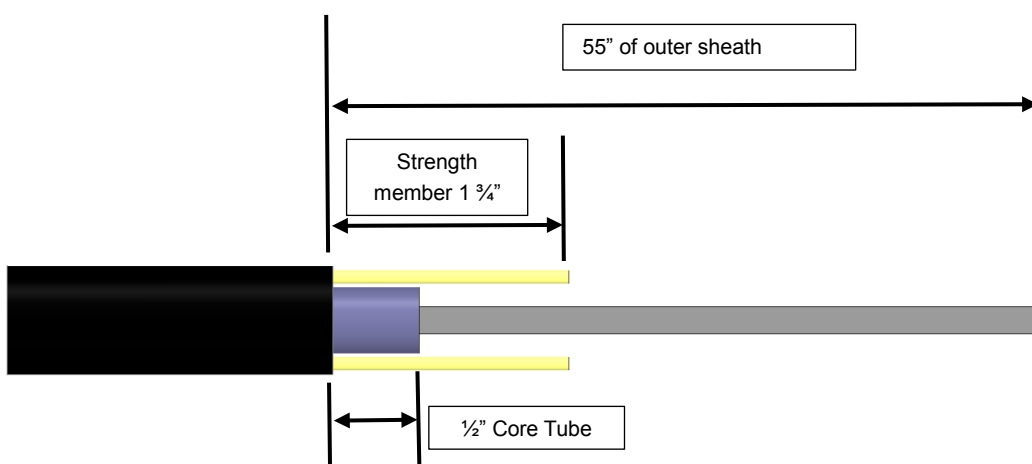

Figure 13
10.1.1 Preparation of Inline stub configuration ribbon central core tube, remove 55" of outer sheath from end of cable. See Figure 13.
10.1.2 Cut strength member(s) 1 3/4" from end of sheath opening. See Figure 13.
10.1.3 Remove core tube from ribbon leaving 1/2" core tube, measured from the cable sheath openings. See Figure 13.